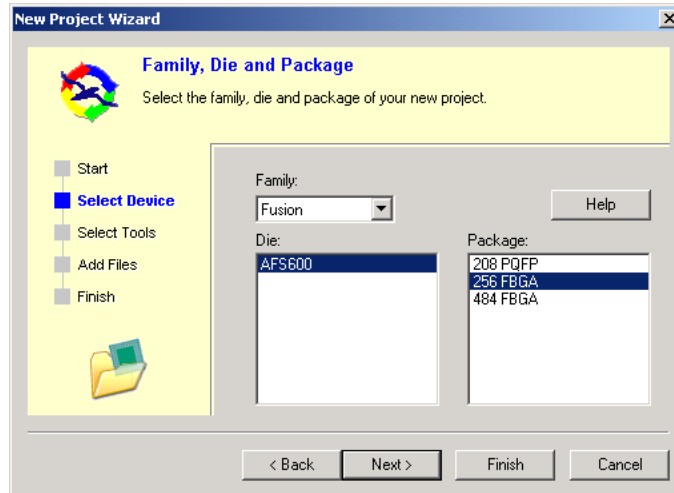

Figure 1-4. Select Fusion Device Family
4. Select Family = Fusion, Die = AFS600, Package = 256 FBGA (Figure 1-4).